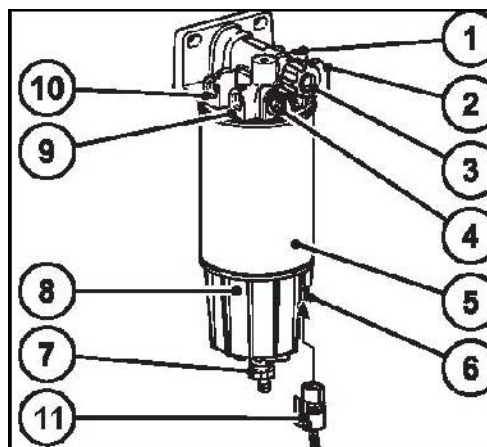

Fig. 162
2. Pull out the dipstick (Fig. 162/1) and clean it using a clean cloth.
4. When required, the oil level must be topped-up through the filling opening (Fig. 162/2,3) using the specified oil.
5. Unscrew the oil drain plug (Fig. 162/4).